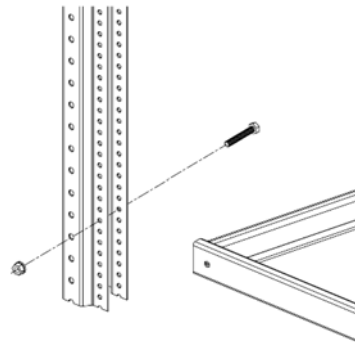

Fig. 4
4. Attach the lower tie beam along with the diagonal beam using an M6x40 screw with the rear upright. (Fig. 4)